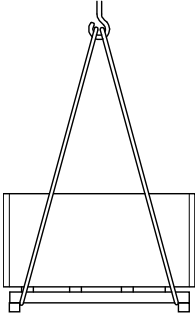

Fig. 6 Transporting with the crane
1. Attach ropes, straps, or multi-point suspensions to the pallet as shown in Fig. 6 and ensure that they cannot slip.